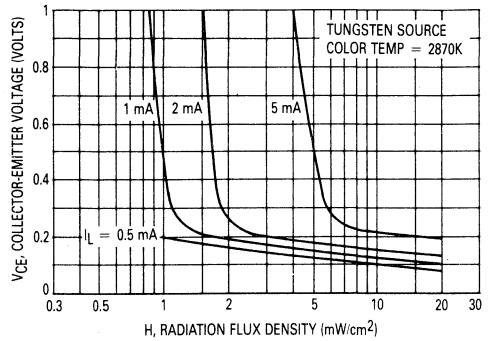

Figure 2. Collector-Emitter Saturation Characteristic
- NOTES: 1. Radiation flux density (H) equal to 5 mW/cm^2 emitted from a tungsten source at a color temperature of 2870 K.
2. Radiation flux density (H) equal to 0.5 mW/cm^2 (pulsed) from a GaAs (gallium-arsenide) source at $\lambda = 940 \text{ nm}$.
3. For unsaturated response time measurements, radiation is provided by pulsed GaAs (gallium-arsenide) light-emitting diode ($\lambda = 940 \text{ nm}$) with a pulse width equal to or greater than 10 microseconds (see Figure 2) $I_L = 1 \text{ mA peak}$.